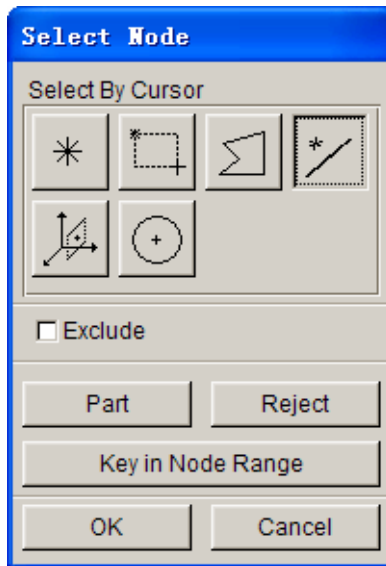

Figure 1.40: Select Node dialog box
- 3) Select New Line mode in the Select Node dialogue box. See figure 1.40.